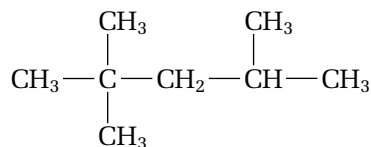

Figure 13.15 This compound is 2,2,4-trimethylpentane, an isomer of C_8H_{18} . It is one of the main ingredients in gasoline.
3. When possible, put numbers in ascending order. (For example, the compound in Figure 13.15 compound is 2,2,4-trimethylpentane, not 4,2,2-trimethylpentane.)